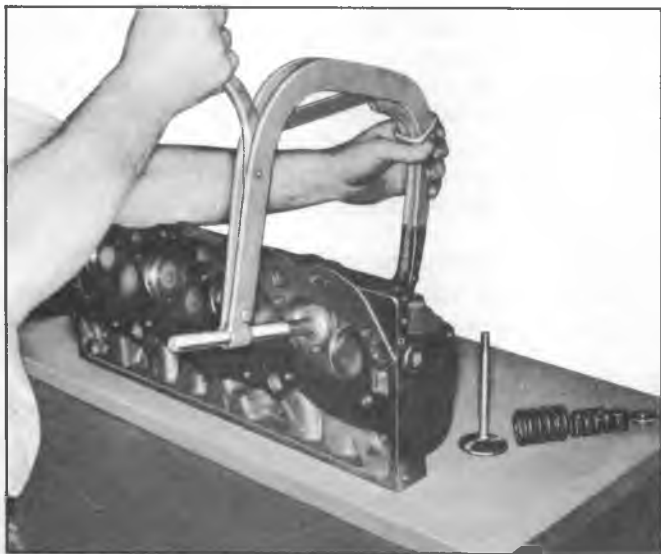

Fig. 13-Compressing Valve Spring
2. Using Tool J-8062, compress the valve springs (fig. 13) and remove valve keys. Release the compressor tool and remove spring caps, spring shields (if so equipped) springs and spring damper, then remove oil seals and valve spring shims.